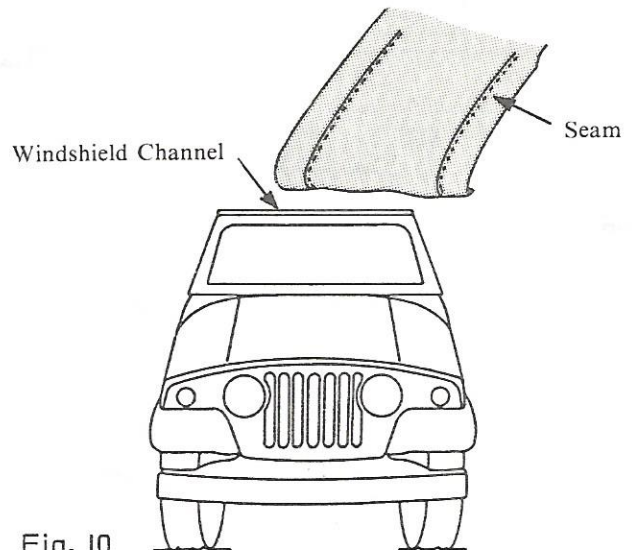

Fig. 10
1. Unfold Top, lay over Front Bow. Because of seam thickness, it is easier to take one seam to the outside of the channel, and then insert into channel groove. See Figure 10.